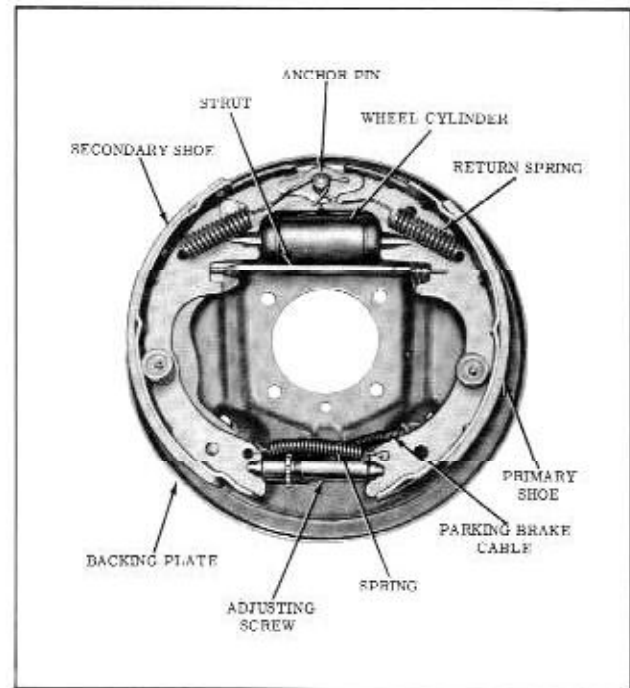

Figure 7-15 Rear Brake Assembly
- Remove brake shoe return springs, hold-down caps, springs and pins. (Fig. 7-15)